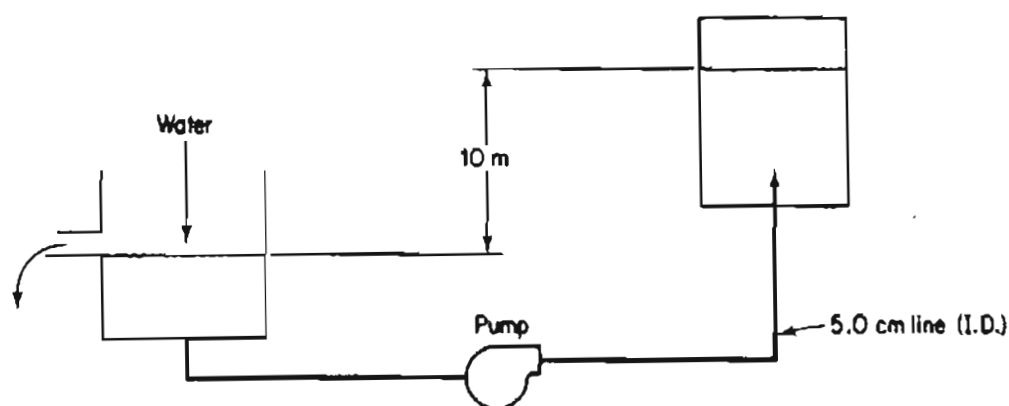

Figure P27.15
- *27.15 Water at 20°C is being pumped from a constant-head tank open to the atmosphere to an elevated tank kept at a constant pressure of 1150 kPa in an experiment as shown in Figure P27.15. If water is flowing in the 5.0-cm line at a rate of 0.40 m³/min, find